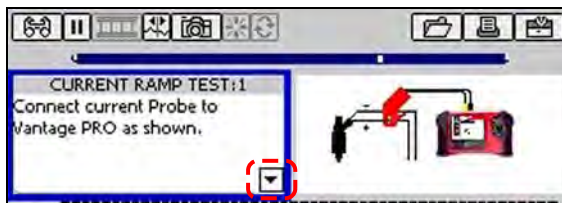

Figure 4-9 Down ▼ arrow indicating more information
- Press the up ▲ or down ▼ arrow in the selected window (Figure 4-9) to display more information.